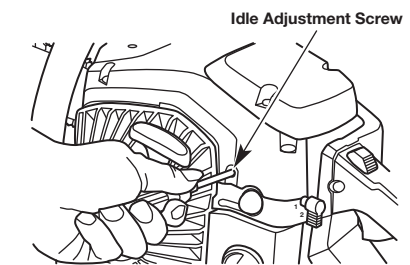

Fig. 10
**IF...** The unit idles roughly, use a Phillips or standard screwdriver to turn the idle adjustment screw (Fig. 10) 1/4 to 1/2 turn clockwise or until the unit idles smoothly.
**IF...** The saw chain turns while the unit is idling, use a Phillips or standard screwdriver to turn the idle adjustment screw (Fig. 10) counterclockwise until the saw chain stops and the unit continues to idle.